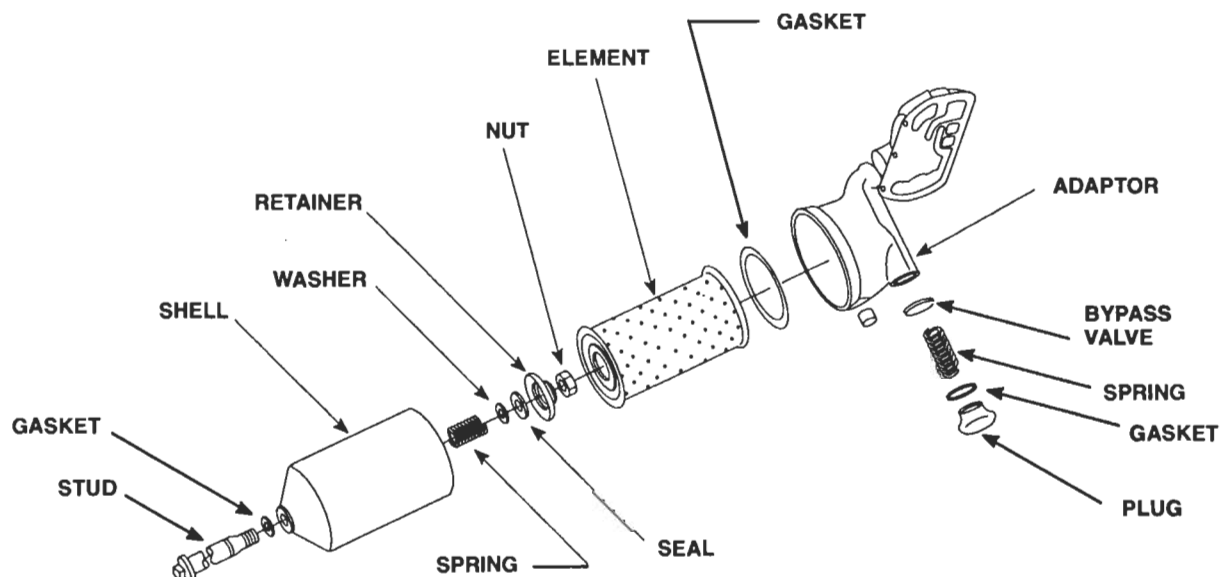

Figure 3. Full-Flow Type Oil Filter Components
1. Remove the drain plug (Figure 3.) from the filter shell or the filter adaptor or base and drain the oil.